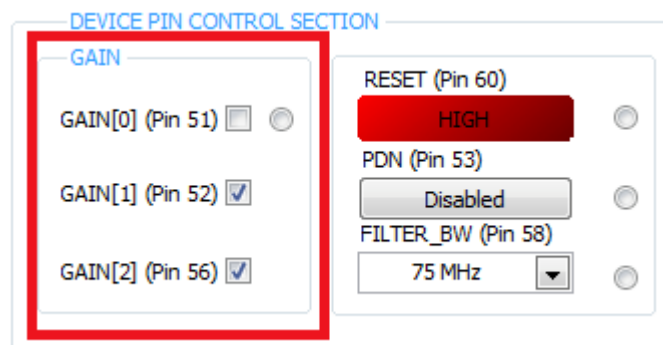

Figure 50. PGA5807 GUI Setup for PGA5807A + ADS5296A Gain Test 4
- Return to the *PGA5807* tab and change the **GAIN[x]** values in the *DEVICE PIN CONTROL SECTION* to *18dB* as shown in Figure 50.